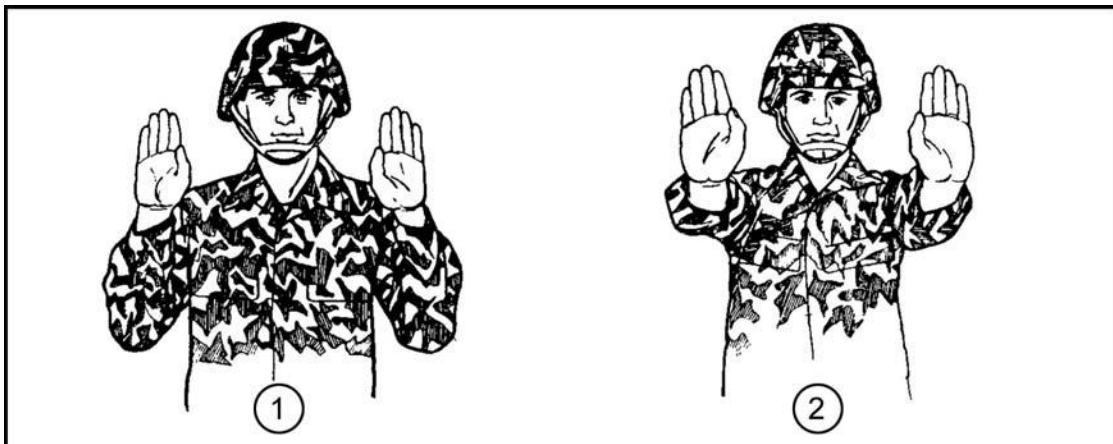

Figure 5-1. GET READY.
(1) The JM starts the command with his arms at his sides and gives the arm-and-hand signal by extending both arms to the front at shoulder level with his palms facing the parachutists.
(2) He begins at shoulder level, fingers and thumbs extended and joined, palms facing toward the parachutists. He extends both arms forward until the elbows lock, with the palms toward the parachutists. He gives the oral command GET READY, then returns to the start position with arms at the sides (Figure 5-1).